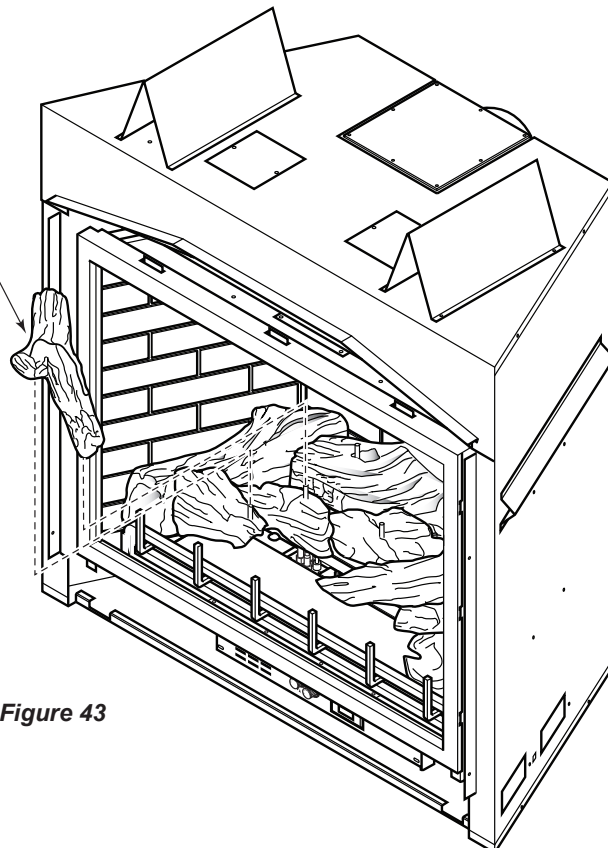

Figure 43
8. Place top left log (#4) on two pins on left mid log. *Figure 43*